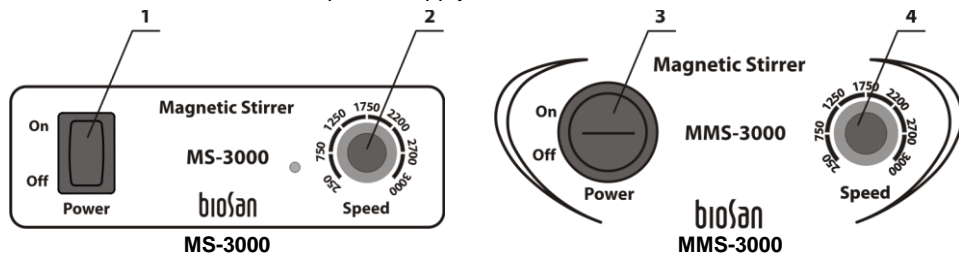

Figure 3. Control panel
- 5.3. Turn the **Power** switch (fig. 3/1 or 3/3) into the position **On**.
- 5.4. Set the required speed using the **Speed** knob (fig. 3/2 or 3/4). Increase the speed.